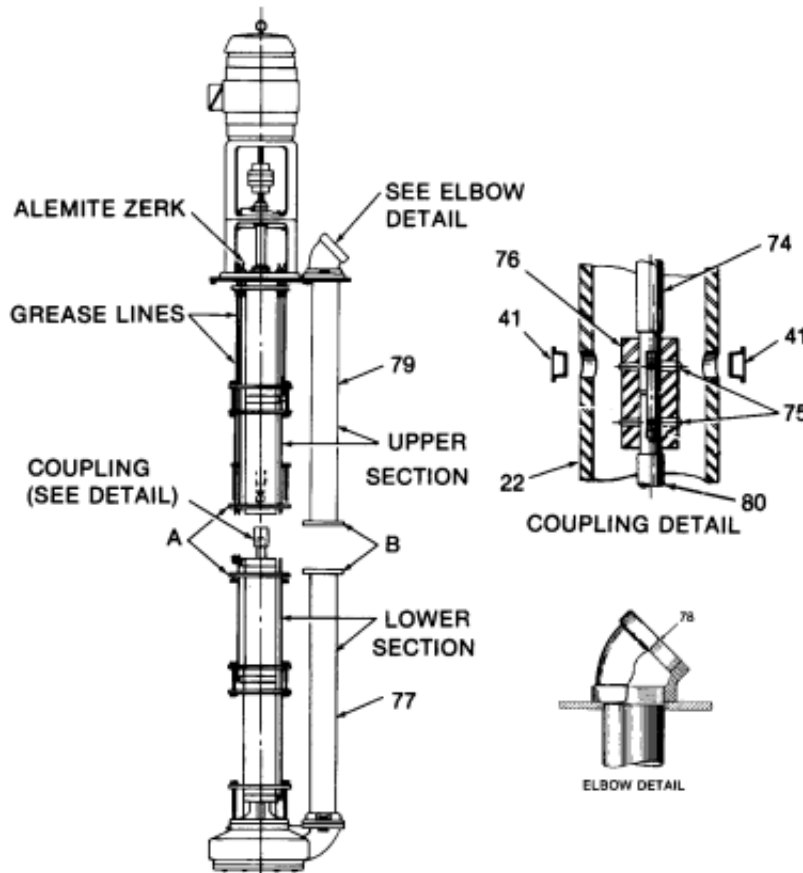

Figure 7. Two-Section Sump Pump
3. Remove the two cap plug protectors (figure 7) from the hanger pipe (508). The two cap protectors are located 180d apart and are at the point where the shaft is coupled together near the middle of the pump.
4. Turn the upper shaft (6A) until the small end of the taper pin (537) in the shaft coupling (70) is in line with one of the holes in the hanger pipe.
6. Remove cap screws from the bearing cap (503). Do not disturb setting of lock nut (501) and bearing adapter (170).
7. Raise shaft approximately 4 inches so that the lower end of the upper shaft (6A, figure 7) clears the top of the coupling (70). Block in place with a 4-inch piece of wood between the bottom of the bearing (515) and the bearing pedestal (81) to keep shaft in a raised position.
8. Unbolt the flange connection in the pump discharge line at point B (figure 7), and temporarily secure to the hanger pipe.
9. At hanger pipe A (figure 7), which is the joint closest to the opening left by the removal of the Caplug, remove bolts and nuts joining hanger pipe and intermediate bearing assembly, and remove lower section of pump.
10. Remove lower section of discharge pipe (522A, figure 7) from packing flange (530), by using a pulling twisting motion.
11. To remove upper section of discharge pipe from discharge elbow (516B, figure 7) unscrew with counter-clockwise turns as viewed from point B.